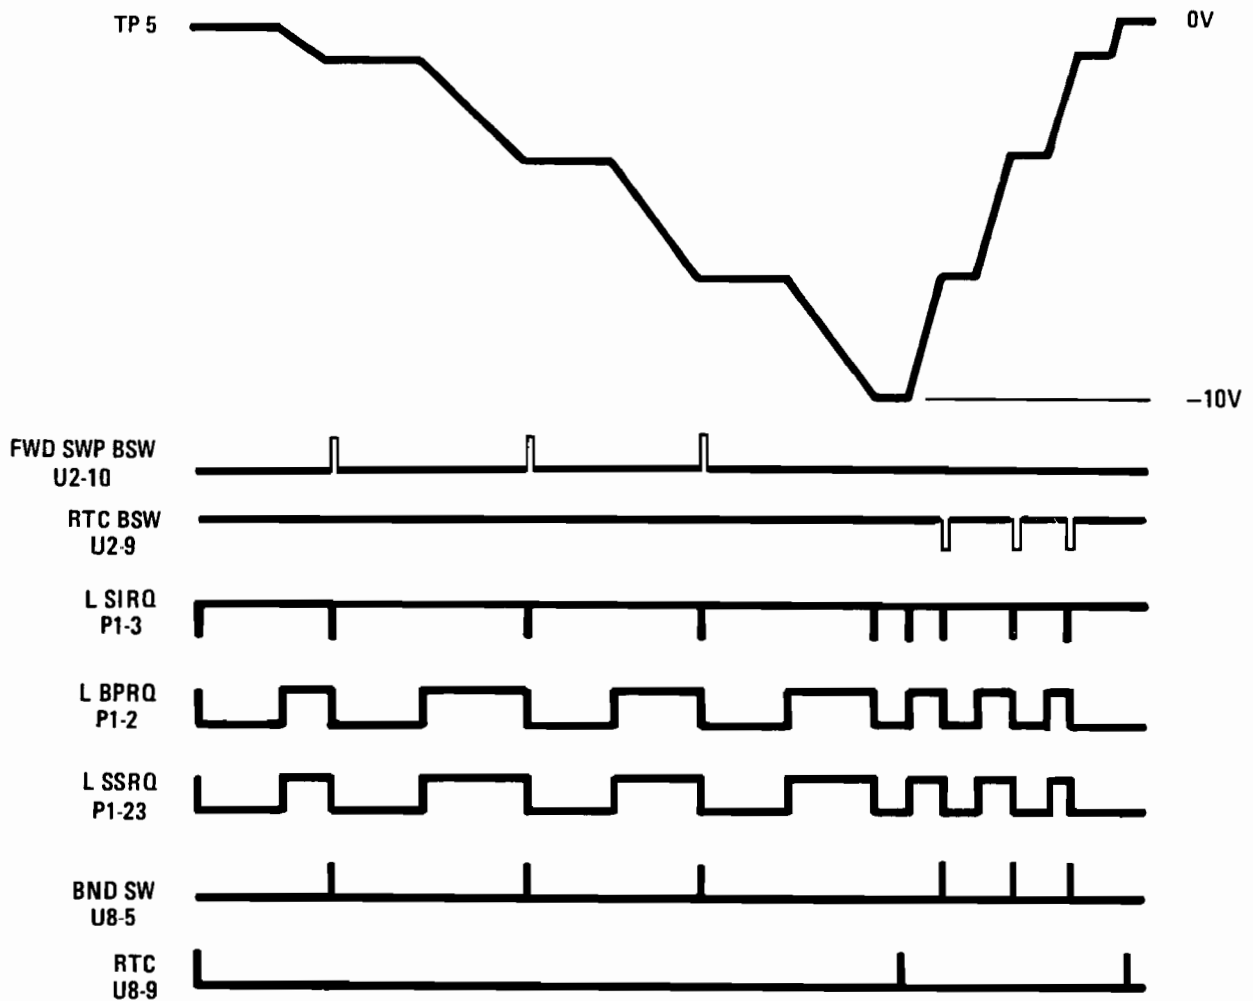

Figure 8-45. Sweep Control/Interrupt Logic Waveform
1. Verify operation of the bandswitch comparator by checking the FWD SWP BSW (U23 pin 7) and RTC BSW (U14 pin 7) waveforms as shown in Figure 8-45.
2. With an oscilloscope, check the following edge-connector pins: P1-3 (L SIRQ), P1-1 (L RTS), and P1-23 (L SSRQ) The appropriate waveforms are shown in Figure 8-45.
NOTE: Most of the signals discussed in this section are illustrated in Figure 8-45.